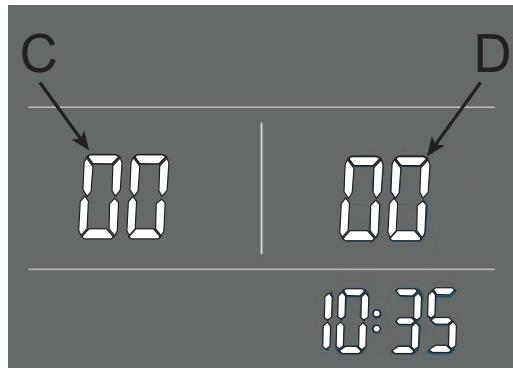

Figure 6-4 - Parameter value change
5.-now you enter the parameter list, where "C" is the parameter and "D" the parameter value, see Figure 6-4;